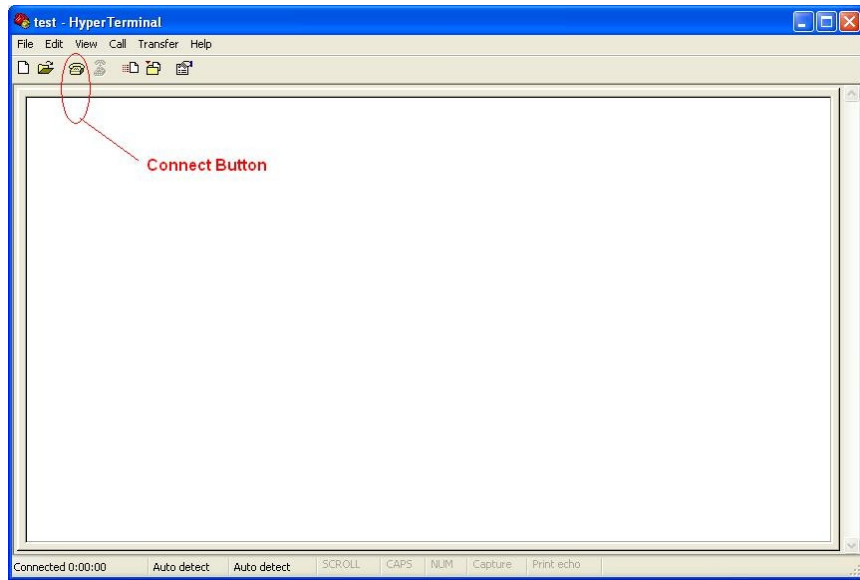

Figure 26 Location of HyperTerminal Connect Button
4. Is HyperTerminal “connected”? See Figure 26 for the location of the Connect button – click on that button to enable the connection between your PC and TEMP08.